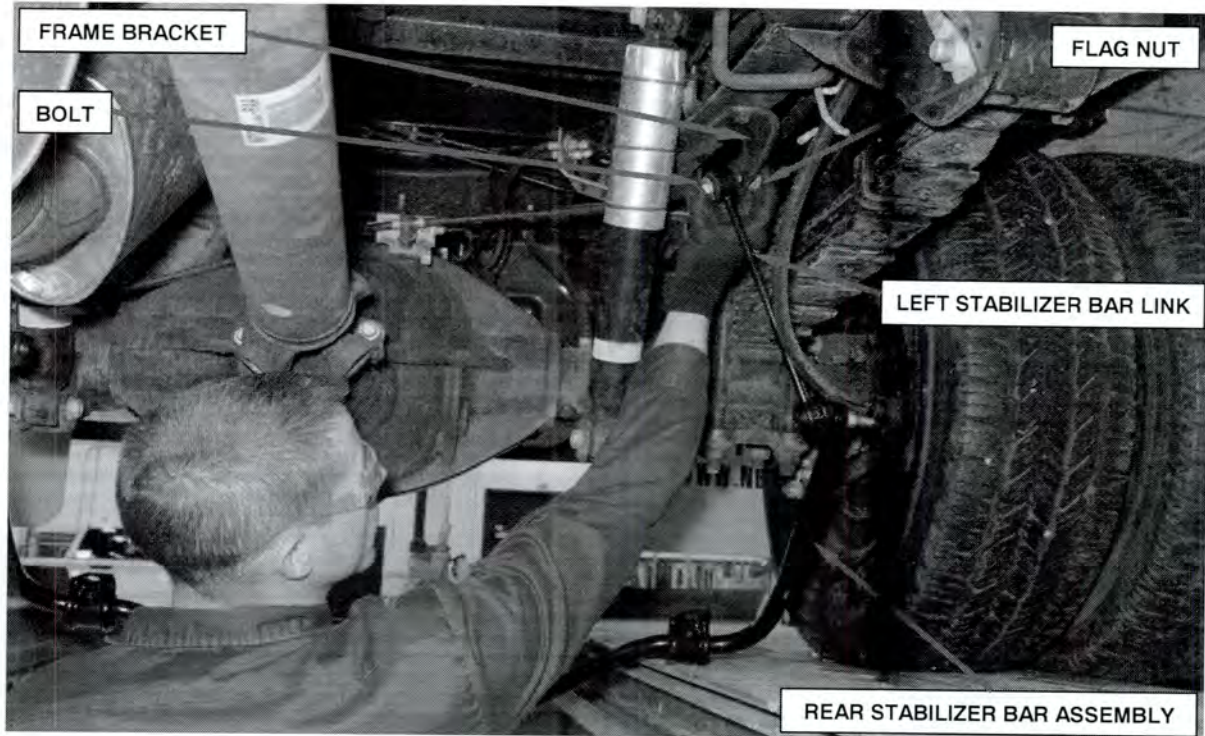

Figure 2 – Left Stabilizer Bar Link
3. Attach the left stabilizer bar link to the frame bracket using a bolt and flag nut (Figure 2).